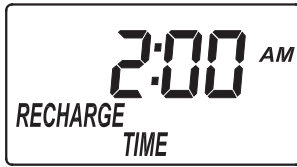

FIG. 15
1. If you completed the previous step, the words “RECHARGE TIME” should show in the display (See Figure 15). Otherwise, press the SELECT button several times until they do.